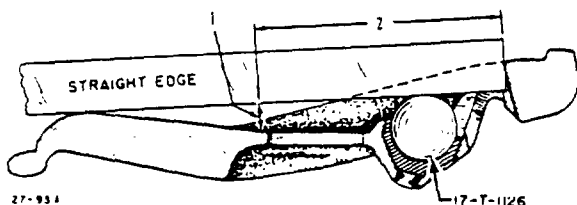

Figure 4-14. Checking Release Lever for Bend
4. Replace worn release levers, springs and ball seats. Check levers with a straight-edge and 11/16 inch ball (17-T-1126) as illustrated, in Figure 4-14 and if bent so that dimension (1) is more 11/32 inch when measured at a point where distance (2) is 2-1/2 inch, replace the lever.